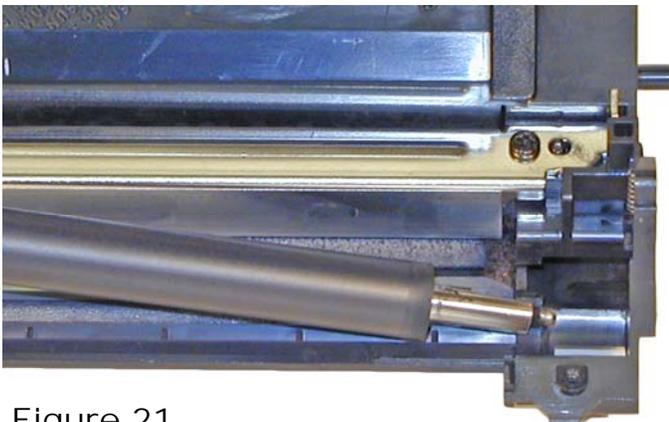

Figure 21
20) Install the developer roller, keyed end to the gear side of the cartridge. See **Figure 21**